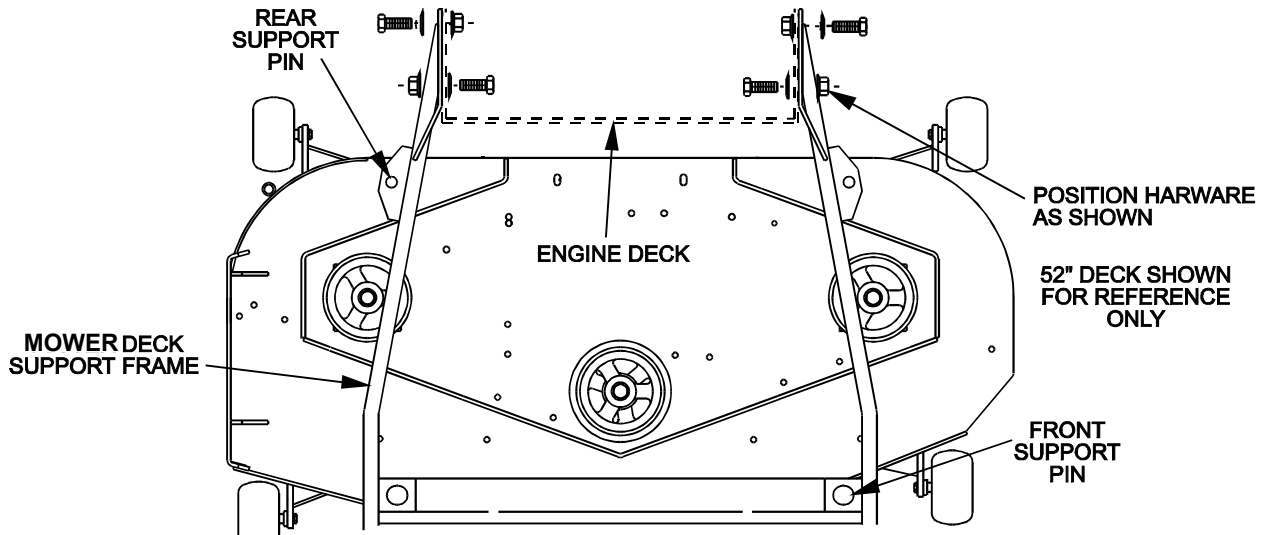

FIGURE 1
NOTE: Place spring washer cone against bolt head and install with the whizlock nut to the **inside of engine deck** for the two **rear** holes on both sides. Install whizlock nut to the **outside** for the two **front** bolt holes on each side of the **mower deck support frame** (See Figure 1). Tighten until spring washers are flat.
- 3.8.4 Position tractor, with mower deck support frame in place, over the mower deck. Align support frame above mower deck and position it so the support pins on the deck align with the mounting holes in the support frame. Lower support frame onto deck and Reinstall the two hairpins and spacers on the front support pins and the two hairpins and spacers onto the rear support pins (See Figure 1).